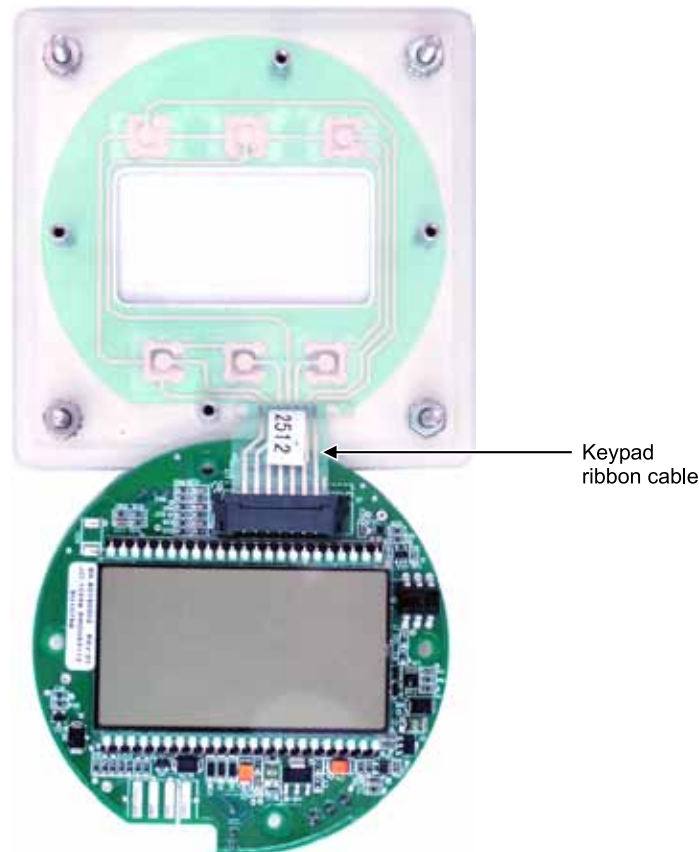

Figure 6.3—Keypad ribbon cable connection
6. Vertically flip the circuit board over so that the LCD is facing you and gently disconnect the keypad ribbon cable from connector J3 (Figure 6.3) as follows: